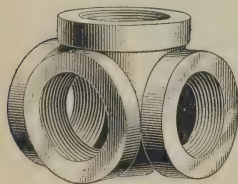

FIG. 15
**28. A side-outlet tee,** which is shown in Fig. 15, is a fitting that is listed in manufacturers' catalogues, but is very seldom used, as it is difficult to provide for free expansion and contraction of the pipes when it is employed.